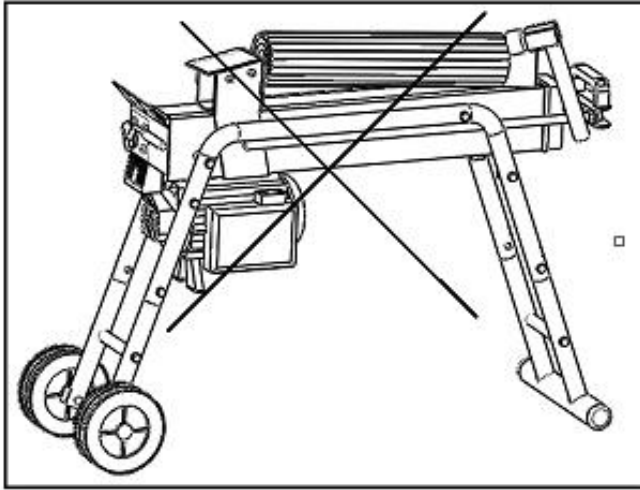

Fig.15
**Do not try to knock the jammed log off. Knocking will damaged the machine or may launch the log and cause accident (fig.15).**